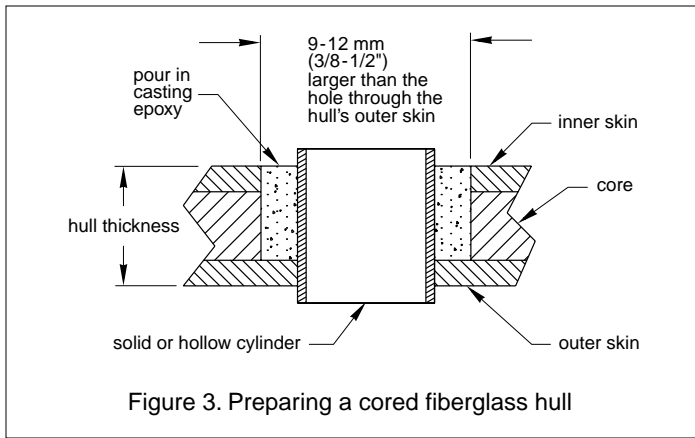

Figure 3. Preparing a cored fiberglass hull
1. Drill a 3 mm or 1/8" pilot hole from inside the hull (see Figure 3). If there is a rib, strut, or other hull irregularity near the selected mounting location, drill from the outside. (If the hole is drilled in the wrong location, drill a second hole in a better location. Apply masking tape to the outside of the hull over the incorrect hole and fill it with epoxy.)